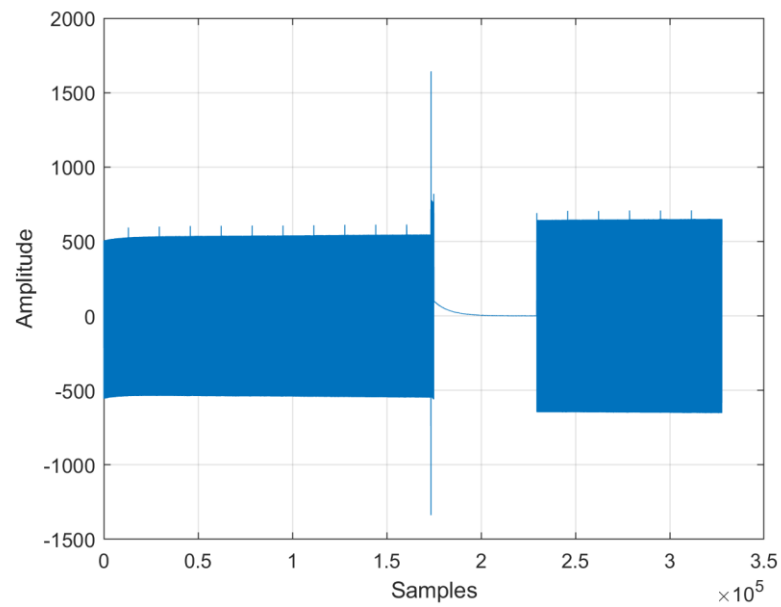

Figure 3 Received amplitude of sinusoid from lab1part0.m script in Fast-Attack mode
**and the resulting plot should look similar to Figure 3.** In this case, the signal converges to the target power level much faster.